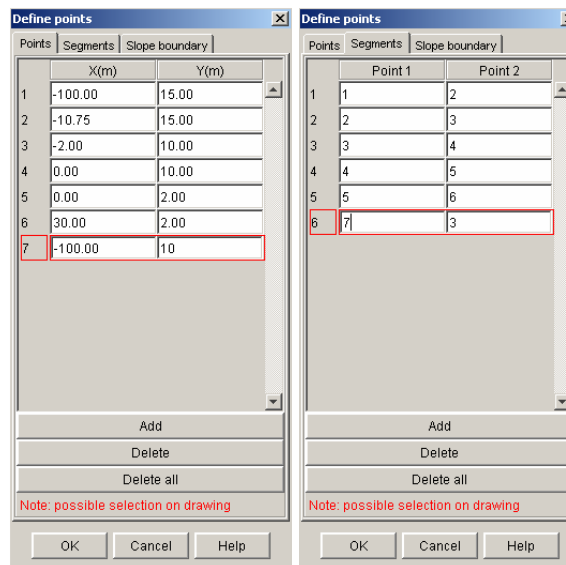

Figure 6: Geometry dialogue box, "Points" and "Segments" tabs
- In order to define the geometry using the geometry dialogue box (most similar way to previous version Talren 97), or check points coordinates: select menu [Project data] then option [Geometry]. The window of Figure 6 is displayed ("Points" tab). If you already defined geometry points with the mouse, they will be displayed in the table, otherwise, the table is empty. To change coordinates, simply click in the corresponding cells. To add new points, click on the "Add" button.
When all points have been defined, click on the "Segments" tab (Figure 6): the table containing all the defined segments appears. It is possible to modify or to add segments.